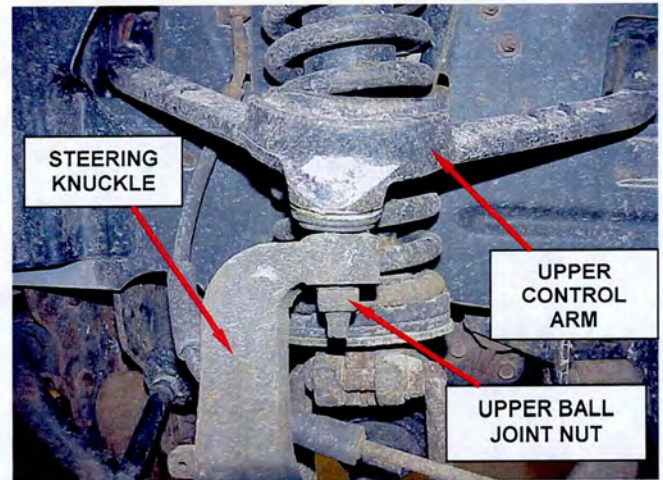

Figure 4 – Left Side Shown
12. Remove and discard the upper ball joint nuts from both upper ball joints (Figure 4).